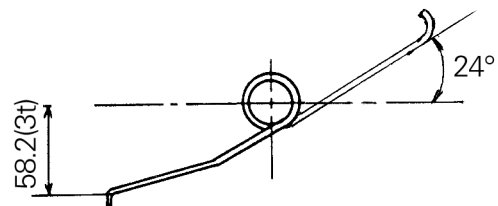

Fig. 8-20
(9) Check the ratchet pawl spring for free length and setting load (See Fig.8-20).